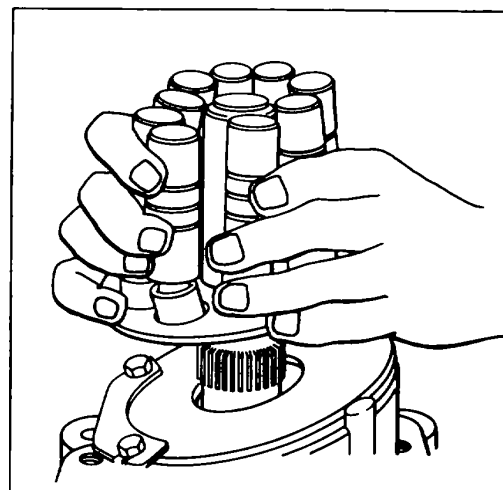

Figure 202.
10. Lift out piston return plate (24) and piston assemblies (55). See Fig. 202. If damage is evident to either pistons (55) or return plate (24), remove pistons from return plate.